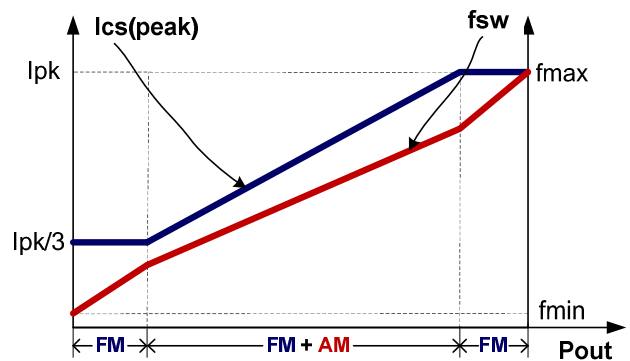

Fig.4
To meet the tight requirement of averaged system efficiency and no load power consumption, a hybrid of frequency modulation (FM) and amplitude modulation (AM) is adopted in DP25133 which is shown in the Fig 4.